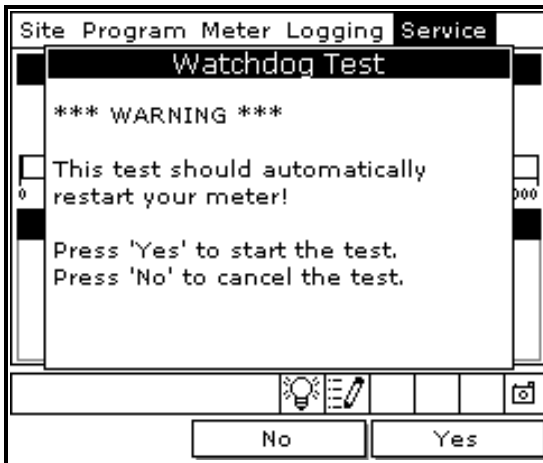

Figure 65: Watchdog Test Screen
4. Use the arrow keys to scroll to **Watchdog Test** and press [ENTER]. The screen appears similar to Figure 65.